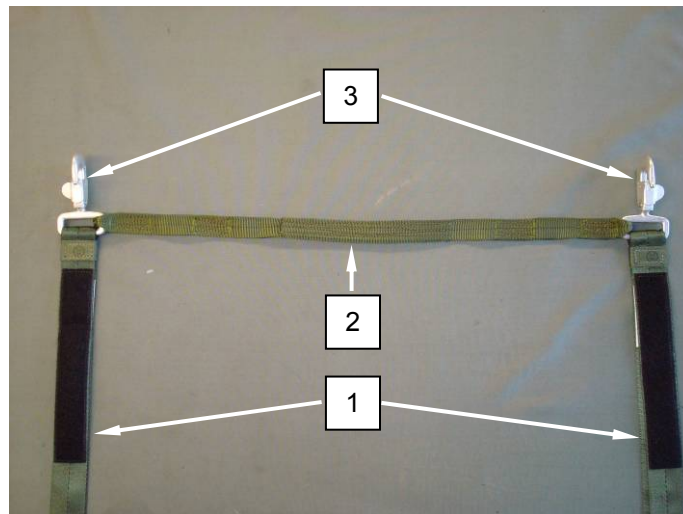

Figure 4. Reserve Riser Assembly.
- d. **T-11 Reserve Riser Assembly.** Riser assemblies without a spreader bar have been replaced with a new riser assembly (Figure 4, Item 1) which contains a spreader bar (Figure 4, Item 2) installed between the two snap hooks (Figure 4, Item 3).